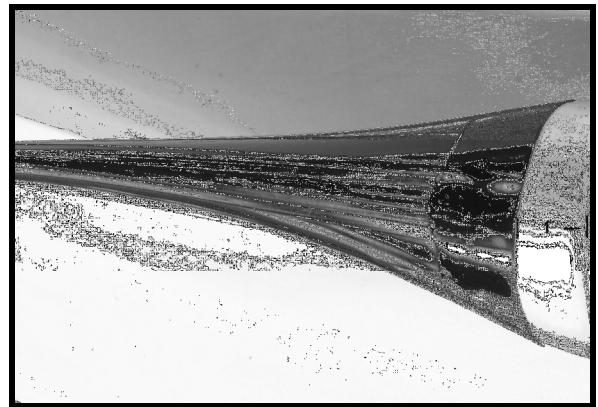

FIGURE 6.4
- 6.4 Maintain one inch space between hub end of the blade and wider end of shoe. (See Figure 6.4)